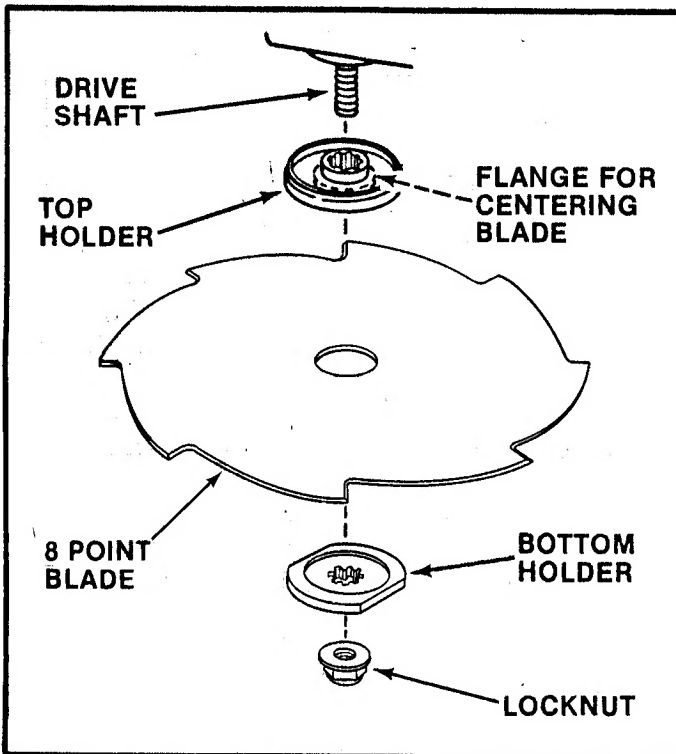

FIG. 7 - STANDARD 8-POINT BLADE
1. Position the centering flange of the top holder into hole of the blade. Make sure cutting edge is positioned as shown in inset in figure 7.